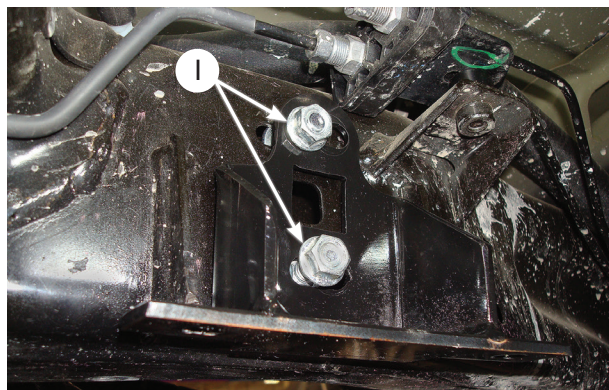

Fig. 10
- Insert the tools with the carriage bolts through the two slots using the square hole in the frame to guide them through (Fig. 10).